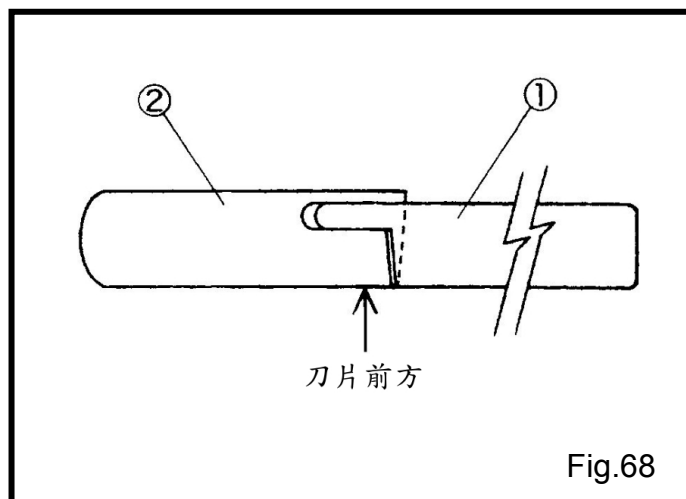

Fig.68
- (1) 當針在最高點，上切刀在左邊時壓腳要貼著針板上，上切刀 ① 刀刃要貼合下切刀 ② 的刀刃。(Fig.68)
上刀 ① 和下刀 ② 成一直線時，上刀不能碰到壓腳壁，正確後固定彈簧軸環。(Fig.68)
- (1) When the needle is at the highest point and the upper knife ① is at the extreme left, the presser foot touches the stitch plate, and the upper knife ① touches the lower knife ② closely. (Fig.68)
Align the front sides of the upper ① and lower ② knives without touching the upper knife to the presser foot. After check them, fix the knife holder guide collar ④ with the screw. (Fig.68)